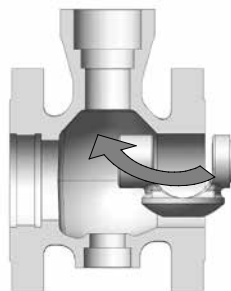

Figure 2b: Plug Installation
- 7.5 Insert the plug in the body as shown in figure 2b.